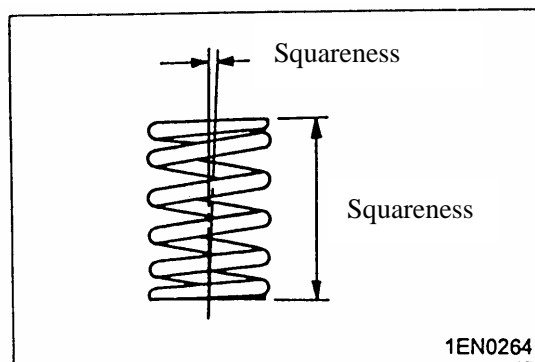

Fig.4-80
(2) Measure the squareness of the spring. If the measurement exceeds the specified limit, replace the spring, see Fig.4-80.